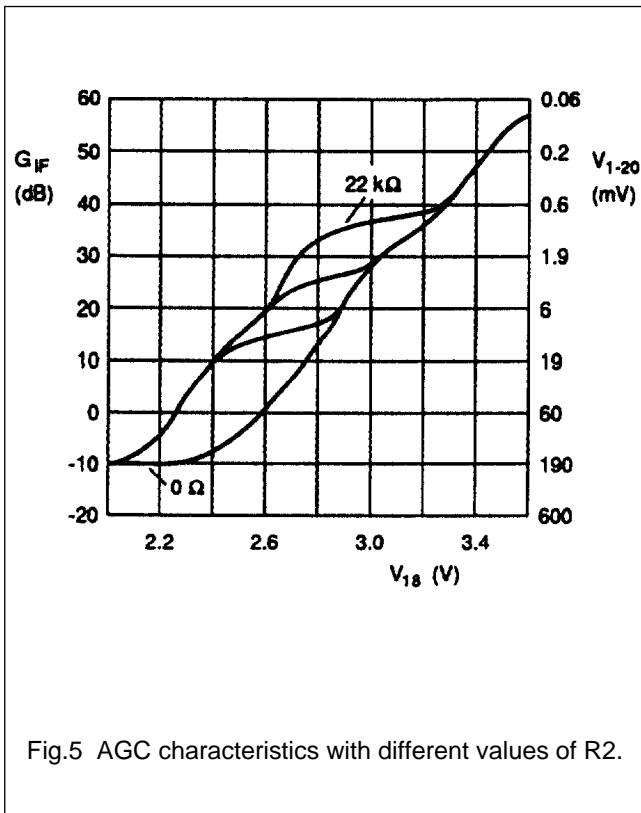

Fig.5 AGC characteristics with different values of R2.
- The starting point of tuner AGC can be adjusted by the resistor at pin 2. Fig.5 shows the AGC characteristic.